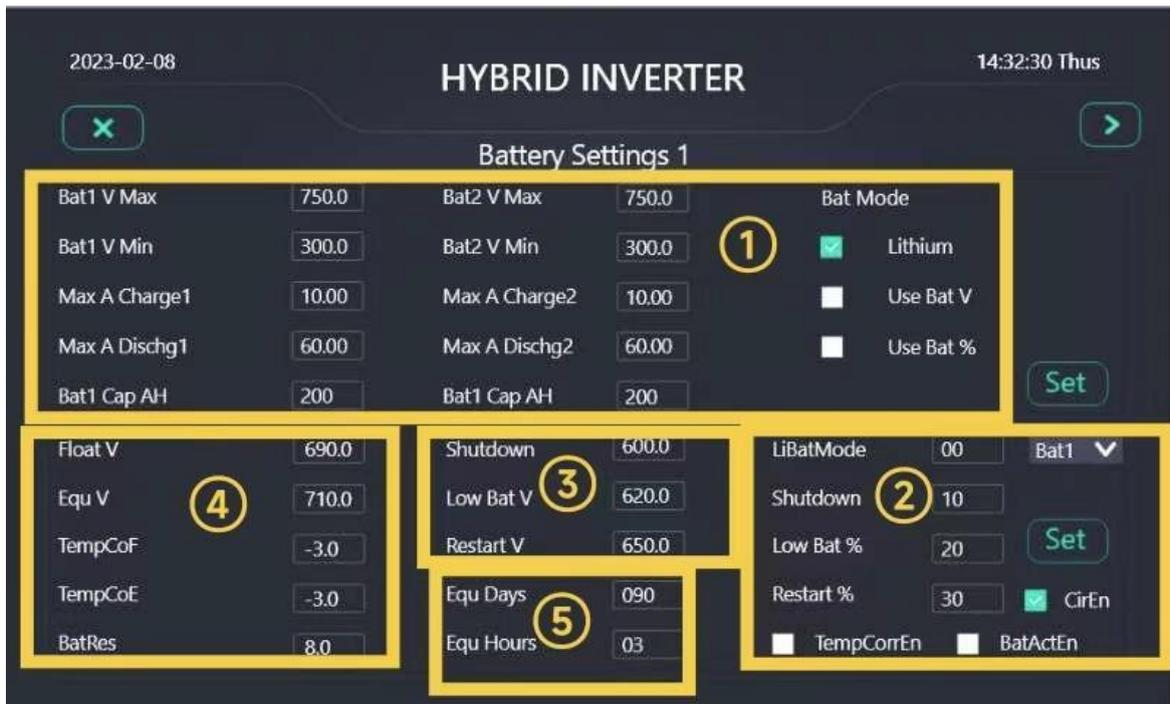

Figure 3.12 Battery Setting 1 Interface
Click "Battery Settings" to set battery-related parameters, as shown in Figure 3.12~Figure 3.14, "Battery Settings1~3", divided into 3 parts.
Bat Mode: Select one of "Lithium", "Use Bat V" or "Use Bat %" for all the setting. This will affect ②,③ in that Figure 3.12 and Figure 3.13 settings below.
- b. Part ② is the maintenance setup for lithium batteries or battery SOC control
- **TempCorrEn**, When this option is checked, the temperature compensation of the float or average charge in ④ will take effect.